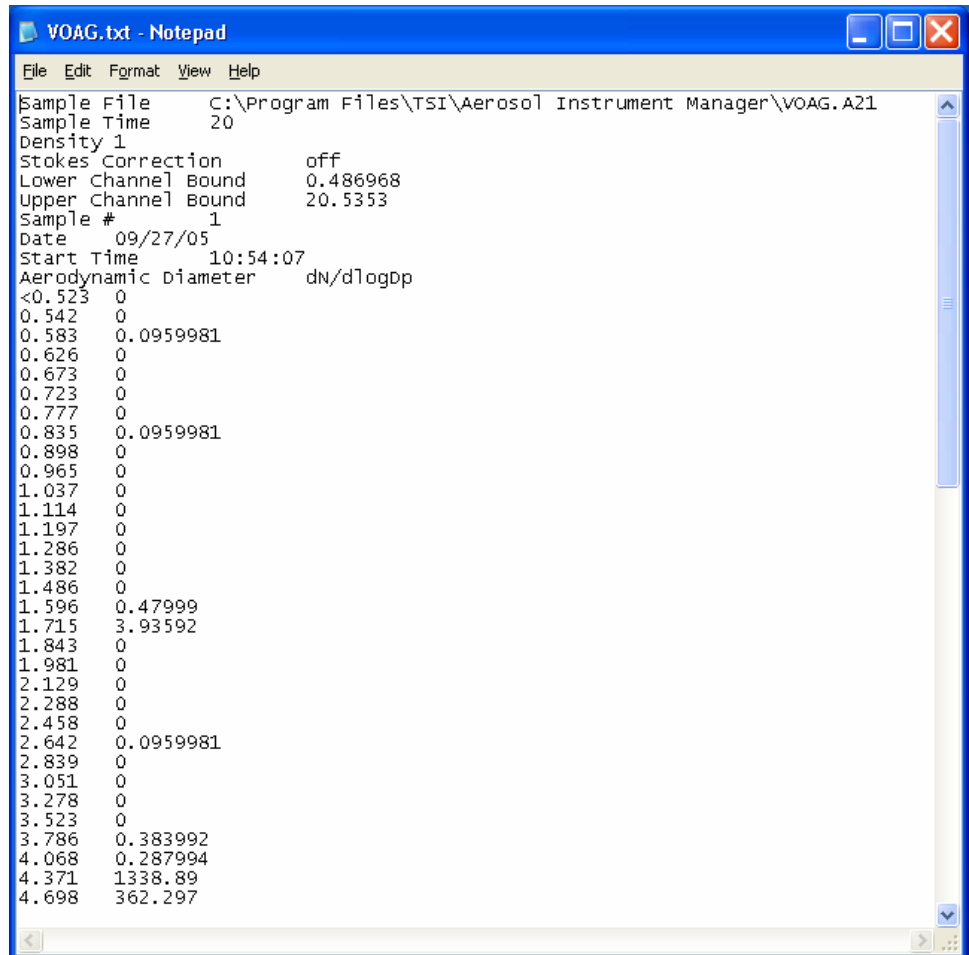

Figure 3-6
7. Figure 3-6 illustrates how an exported *.txt file is formatted for an APS™ Spectrometer.
2. Select **Run | Auto Export** before you begin to collect data. Select the type of data you want to export as well as the format you want to export the data in, using the Export Parameters dialog box (see Figure 3-6). Data will be exported as it is collected.